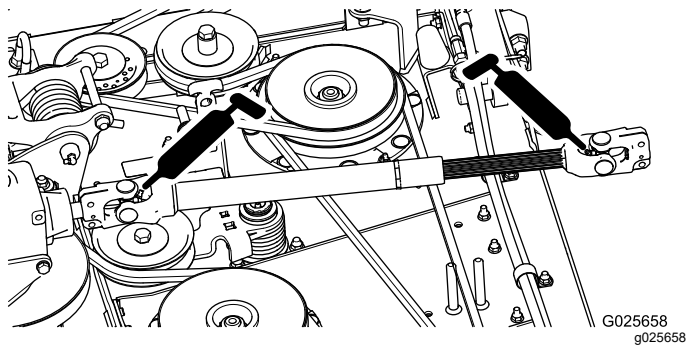

Figure 20
- PTO drive shaft (2) (Figure 20)